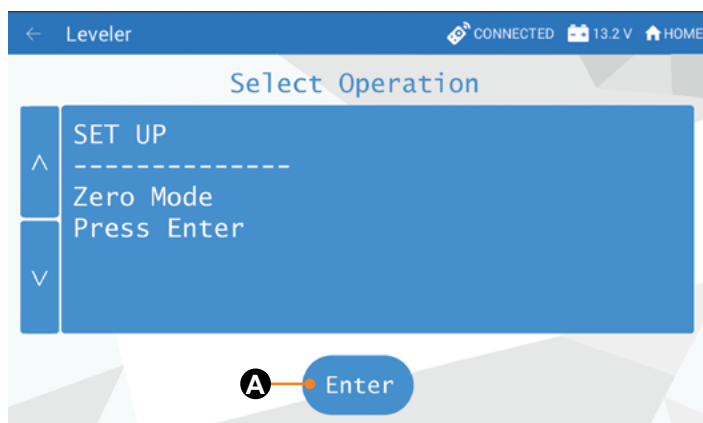

Fig.51
3. The screen will show “SET UP: Zero Mode Press Enter” (**Fig.51**).